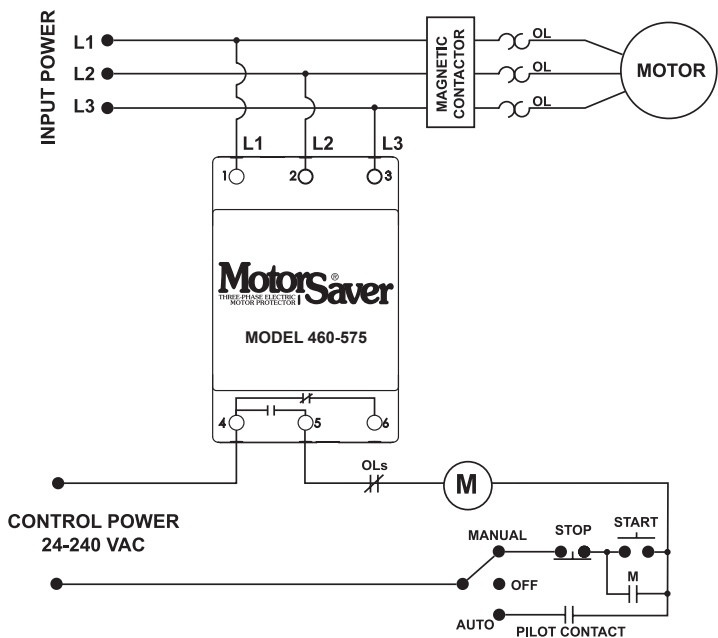
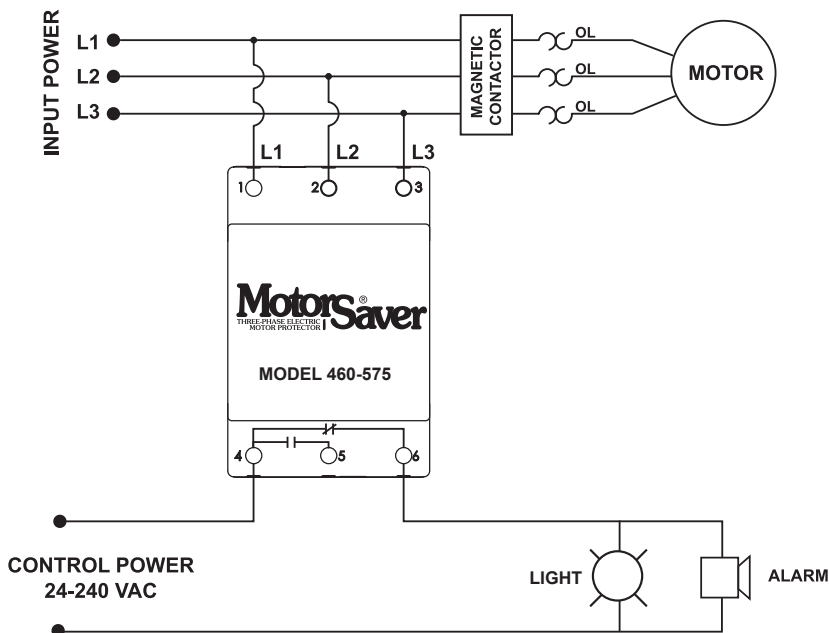

FIGURE 1: CONTROL WIRING DIAGRAM
FIGURE 2: ALARM WIRING DIAGRAM
2. Connect L1, L2 and L3 on the MotorSaver's terminal strip to the LINE SIDE of the motor starter. (See Figure 1).
3. Connect the output relay to the circuitry to be controlled. For motor control, connect the normally open contact in series with the magnetic coil of the motor starter as shown in Figure 1. For alarm operation, connect the normally closed contact in series with the control circuit as shown in Figure 2.